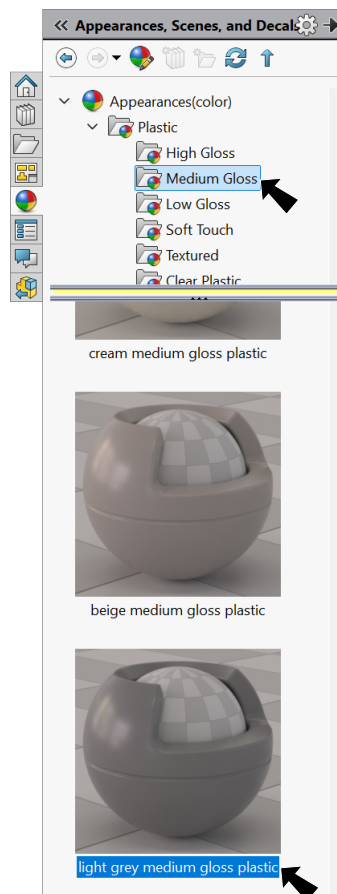

Fig. 21
Step 3. In the Appearances Task Pane expand **Plastic**, click **Medium Gloss** and in the lower pane click **light gray medium gloss plastic**, Fig. 21.